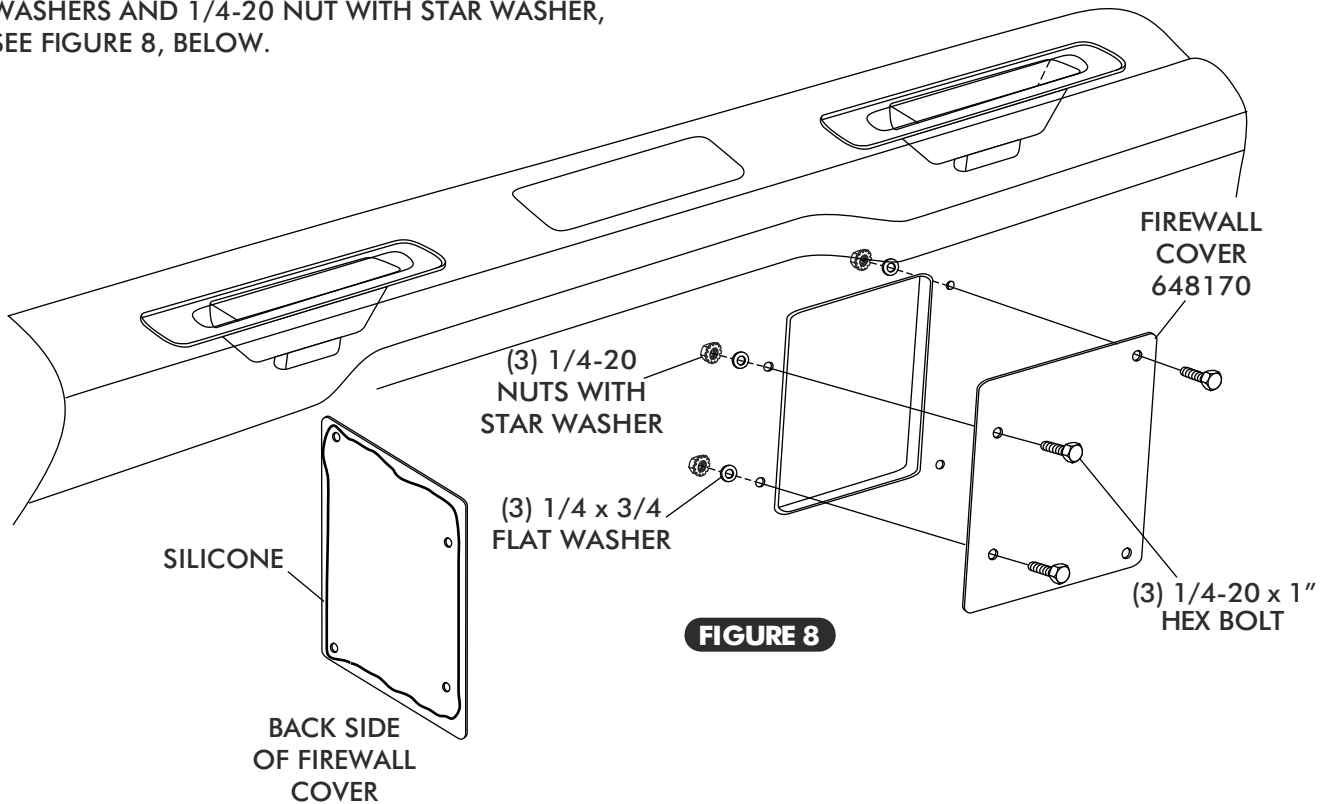

FIGURE 8
- APPLY A 1/4" BEAD OF SILICONE AROUND THE BACK SIDE OF THE FIREWALL COVER AS SHOWN IN FIGURE 8, BELOW.
- FROM INSIDE THE CAR, INSTALL FIREWALL COVER ON FIREWALL USING (3) 1/4-20 x 1" HEX BOLTS, FLAT WASHERS AND 1/4-20 NUT WITH STAR WASHER, SEE FIGURE 8, BELOW.